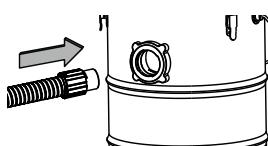

Fig 5
3. **Connecting the hose:** Insert the larger end of the hose into the suction port of the container (Fig. 5).